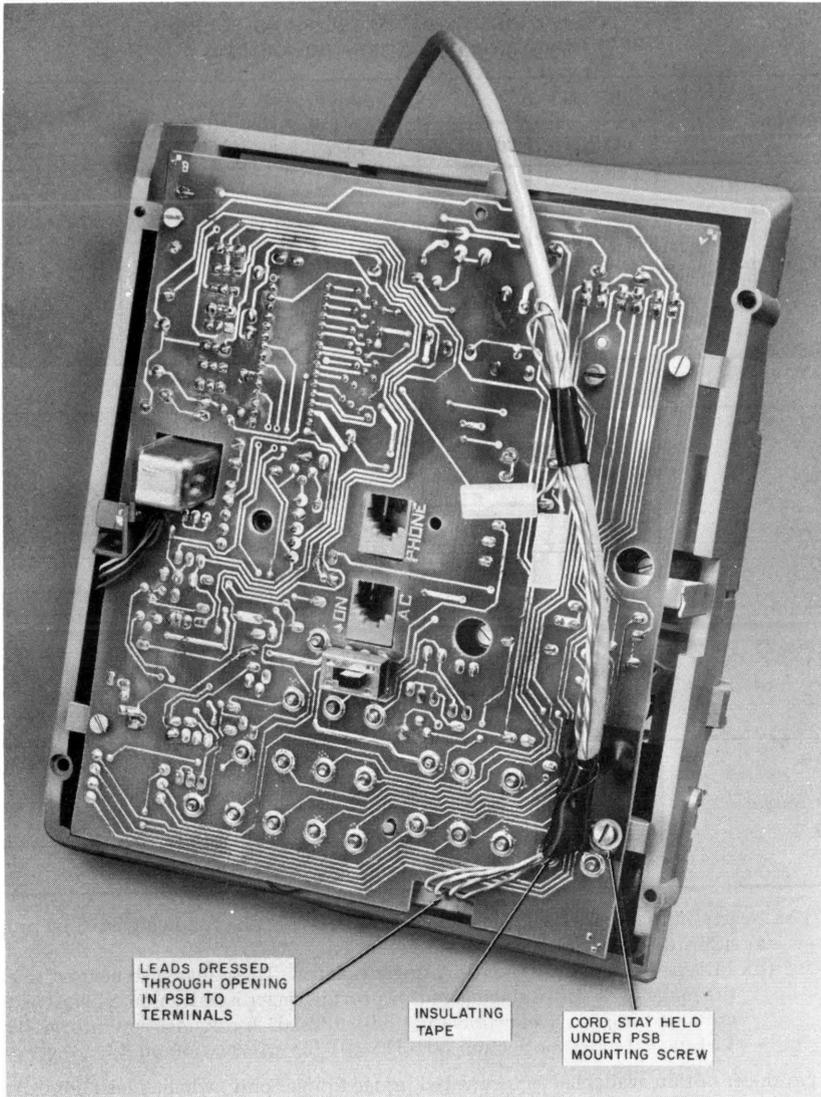

Fig. 12—Bottom of Set With Lower Housing Removed Showing an Adjunct Cord Dressed Across Power Supply Board (PSB)
8.02 Strain relief for optional cordage may be obtained by using any of the six screws used to fasten the power supply board to the bottom of the chassis (Fig. 12). Proper precautions must be taken so that the stay band and hooks
do not short any circuit paths. Insulating tape should be placed around the cord and stay band and also applied to the power supply board under the cord (Fig. 12).
8.03 A rectangular cutout at the right front edge of the power supply board provides access for dressing individual spade-tipped leads to the appropriate screw terminals on the power supply circuit board (Fig. 12).